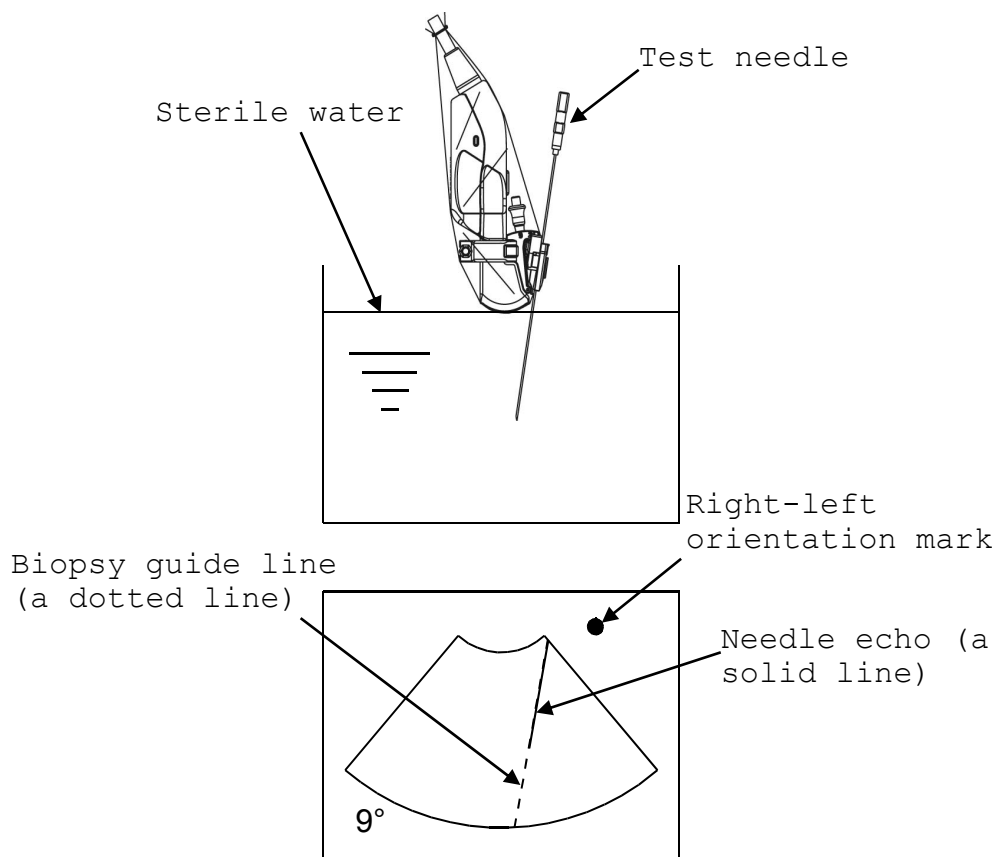

Fig. 2 Echo image of the test needle
- 2) Fill sterile water into a bucket and confirm that a biopsy guide line and an echo image of test needle are overlapped correctly at all selectable angles. (See Fig. 2)